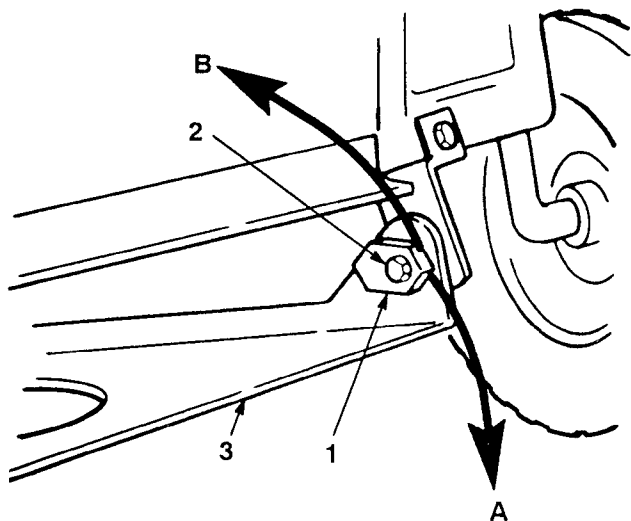

Figure 50
8. Adjust the front-to-rear slope by rotating the special slope adjusting nuts on both sides of the mower pivot mount (Fig. 50).
9. Using a 1" wrench or socket slowly rotate the left side slope adjusting nut down to raise the front of the mower and up to lower it (Fig. 50). Rotate the slope adjusting nut until the front of the mower is 1/4" to 5/8" (6.350 mm to 15.875 mm) lower than the rear of the mower.